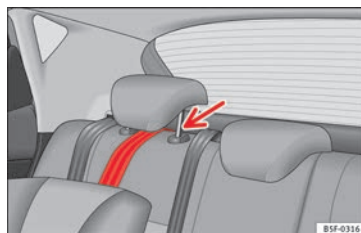

Fig. 34 Retainer strap: correct adjustment and fitting.
- Guide the strap under the rear seat head restraint » **Fig. 34** (lift the head restraint where necessary).